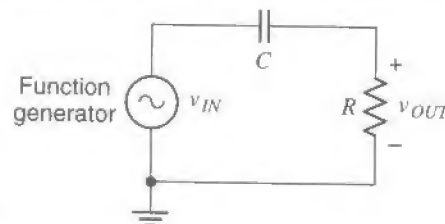

Fig. 5
Consider now the circuit of Fig. 5. Here the output is taken *across the resistor*. As before, at very low frequencies the capacitor will "act almost as an open circuit," which will virtually disconnect the output from the input. The output voltage can thus be expected to be very small at very low frequencies. At high frequencies, on the other hand, the capacitor will act almost as a short circuit, i.e. almost as if it were replaced by a direct connection from input to output, in which case the output voltage would be equal to the input voltage. Thus, for the circuit of Fig. 5, high-frequency input signals pass to the output, whereas low-frequency signals are rejected; for this reason, this circuit is said to be a *high-pass filter*. The voltage gain magnitude G can be defined again as above. When the frequency of the input is equal to f_c , where $f_c = 1/(2\pi RC)$, G takes the value of $1/(\sqrt{2}) \approx 0.707$, just as in the case of the low-pass filter. The quantity f_c is again called the cutoff frequency of the filter. At this frequency, the output leads the input by $+45$ degrees.
9. Now build the high-pass filter of Fig. 5. Use $R = 16 \text{ k}\Omega$ and $C = 10 \text{ nF}$ as before. Vary the frequency of the input signal over a wide range. Observe qualitatively the amplitude of the output. Is your observation what you expected, and does it justify the name “high-pass filter”?